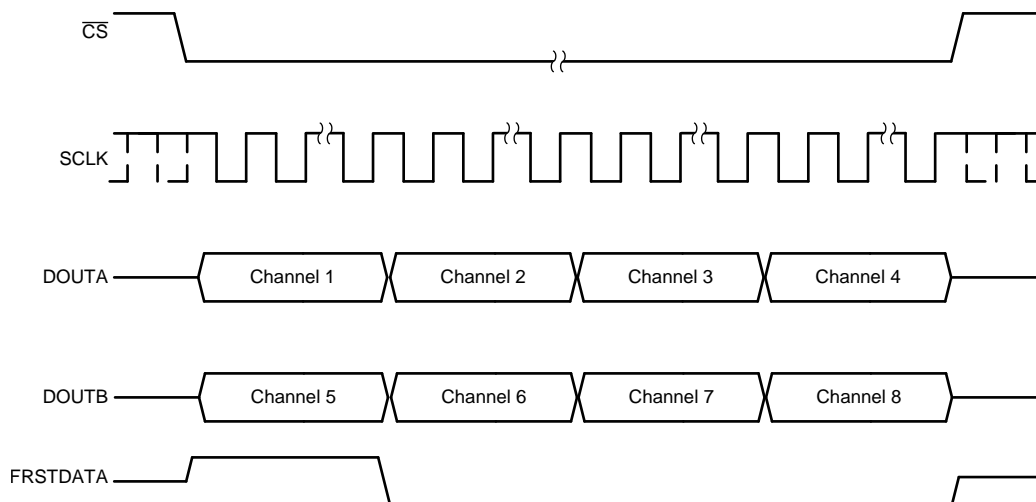

Figure 70. Data Read Back in the Serial Interface Using Both DOUTA and DOUTB Timing Diagram
- In order to minimize the time for the data read operation in serial mode, both DOUTA and DOUTB can be used to read data out of the device. In this case, the conversion results from the first set of channels (channels 1-4) appear on DOUTA and the conversion results from the second set of channels (channels 5-8) appear first on DOUTB. To read the data for all channels, provide a total of $18 \times 4 = 72$ SCLK cycles. This entire data frame can be created within a single \overline{CS} pulse or each group of 18 SCLK cycles can be individually framed by the \overline{CS} signal. Figure 70 shows this operation.